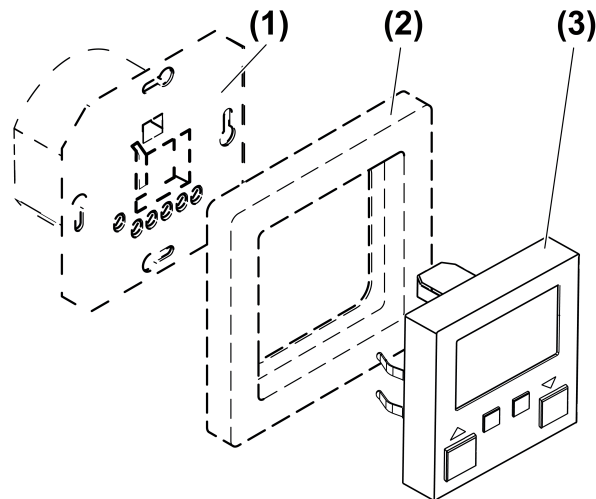

Figure 1: Device components
- Mount cover (3) with frame (2) onto the Venetian blind control (1) (Fig 1).